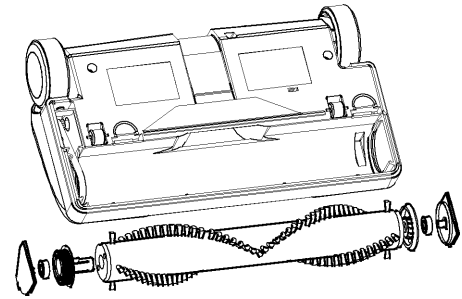

Figure 9
3. Remove and clean the bearing shaft from the brush roller ends. Notice the bearing shafts are not symmetrical. The slanted one belongs to the Brush gear (cogged belt side) (as shown in Figure 9).